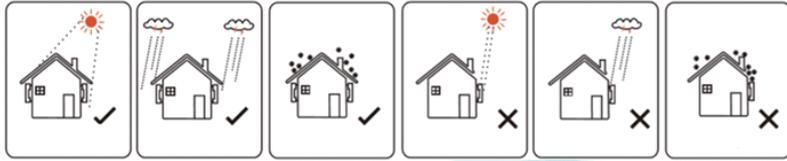

Figure 4-1 Recommended installation location
4.1.1 Recommended installation location of the inverter, as shown in Figure 4-1: